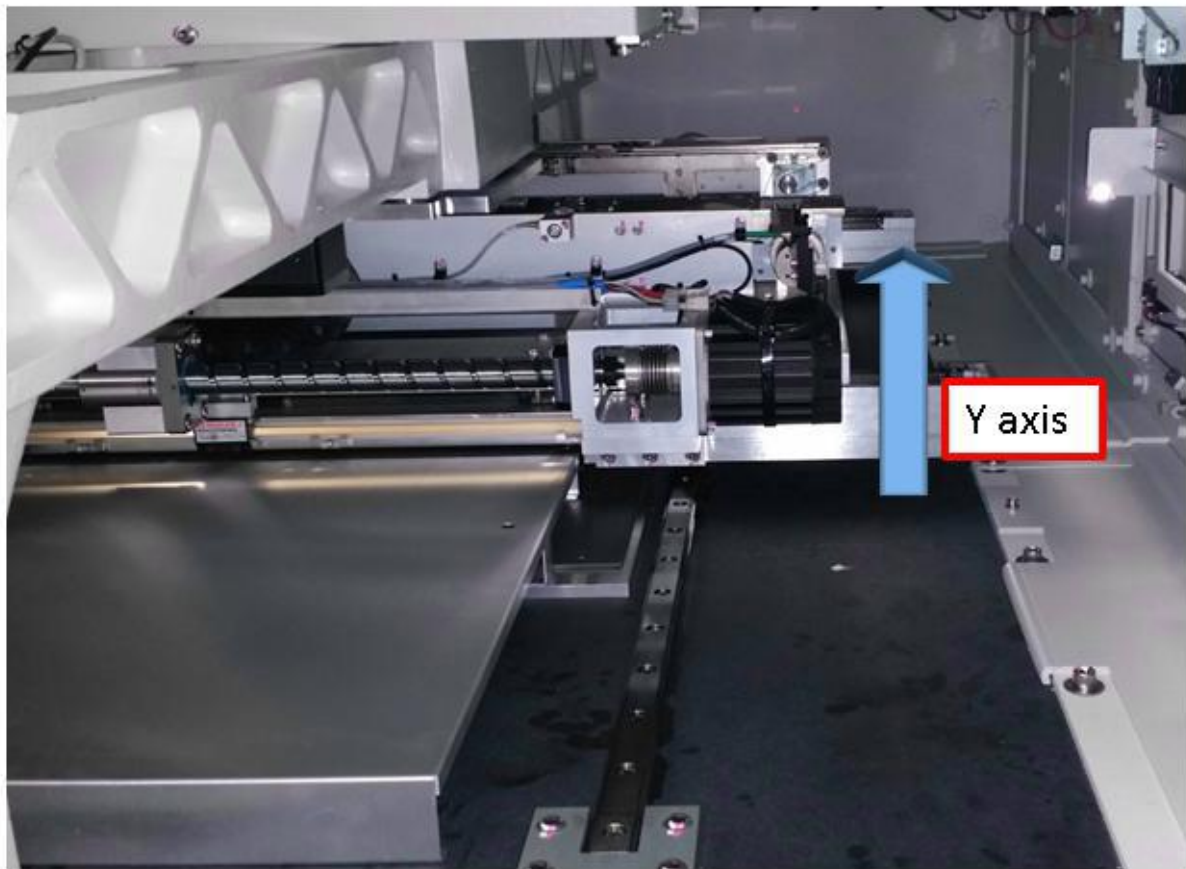

Figure 6 Y axis Maximum Hard Stop (V810 Std)
12. Open the front access door and push the Y axis towards rear direction until it reach Y axis Maximum Hard Stop as Figure 6.